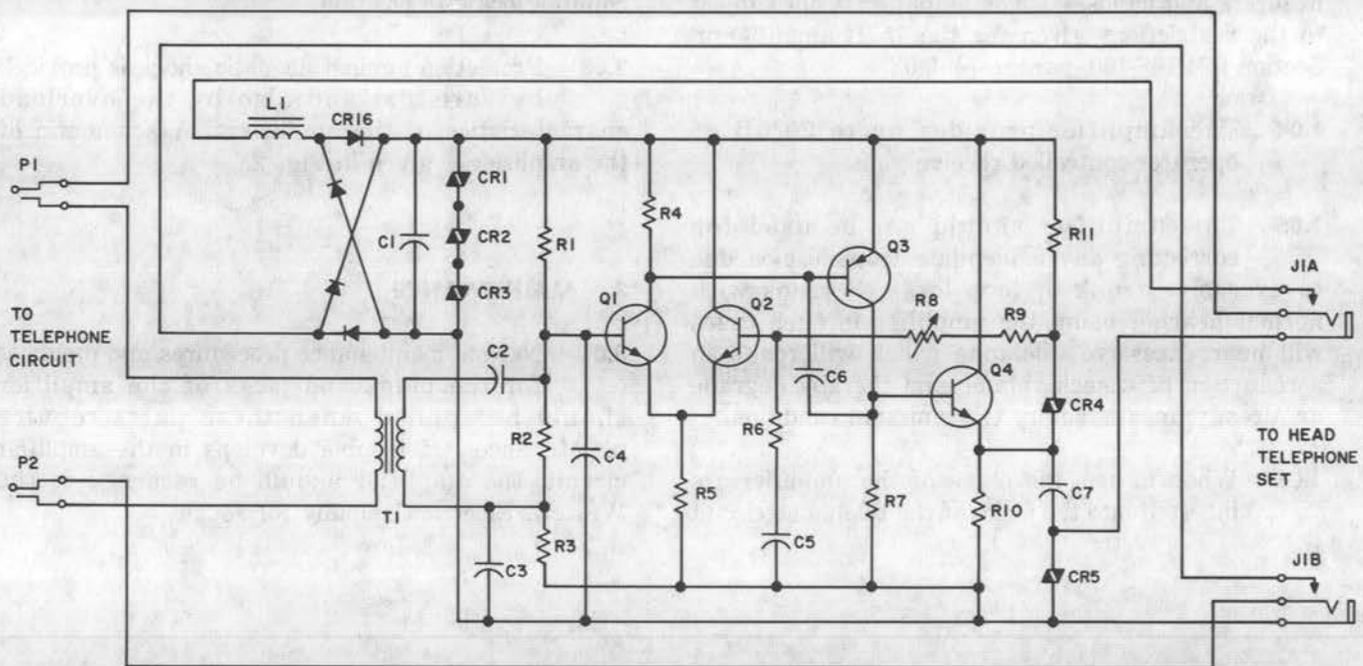

Fig. 2—292A Amplifier Schematic
2.03 Protection against acoustic shock is provided by varistors and also by the overload characteristics of the amplifier. A schematic of the amplifier is given in Fig. 2.